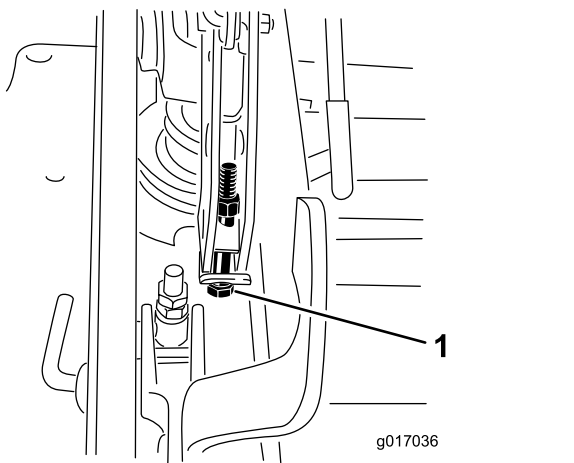

Figure 95
12. If the deck is too low, tighten the single-point-adjustment bolt by rotating it clockwise. If the deck is too high, loosen the single-point-adjustment bolt by rotating it counterclockwise (Figure 95).